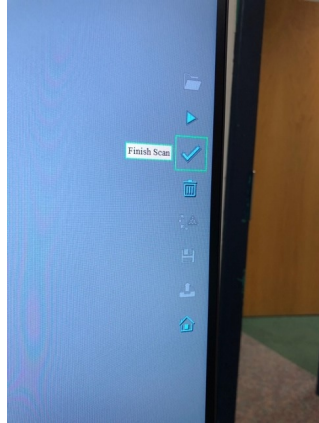
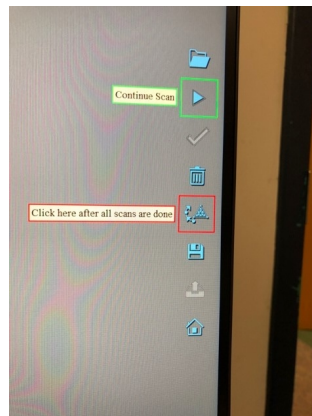

Figure 10: The "check mark" icon on the right tool-bar finalizes the image.
Figure 11: Begin final processing.
10. Select Finish Scan on the right tool-bar (Figure 10). Observe scan and determine if you need to continue scan to collect additional points and repeat steps 5-8. If you have collected all of the detail possible, select the Create Model icon (Figure 11).